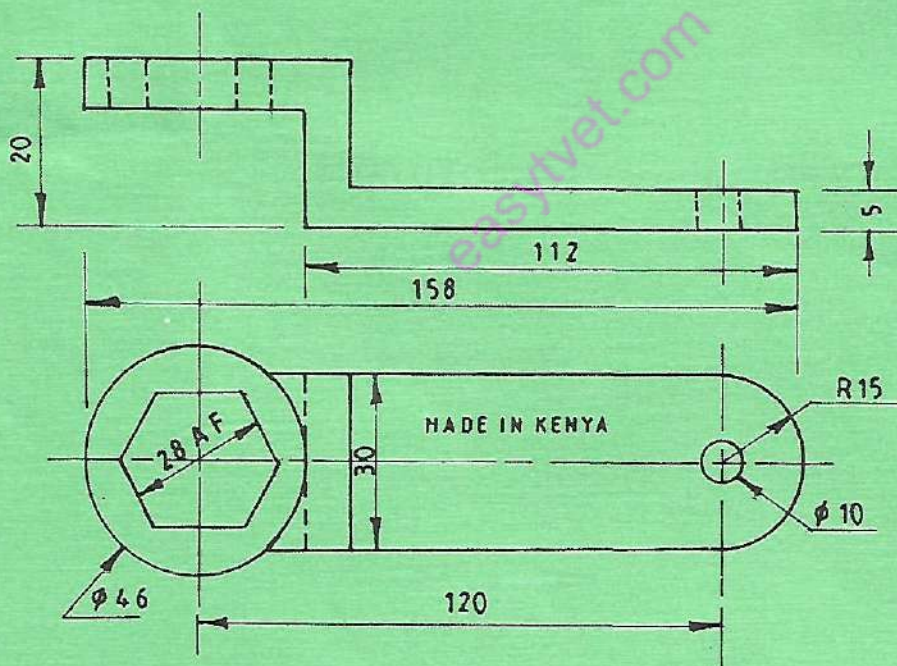

Fig. 1 RING SPANNER
4. Fabricated the spanner shown in figure 1.